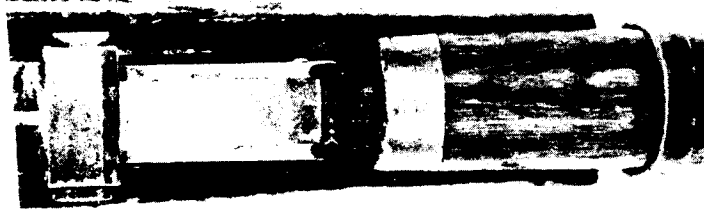

FIGURE 31. REAR RAMP SIGHT FOR CARBINE M1938.
b. The rear ramp sight (fig. 31) is similar to the rear ramp sight of the rifle M1891/30, except that it is shorter and is graduated from 100 meters to 1,000 meters (110 yards to 1,100 yards).